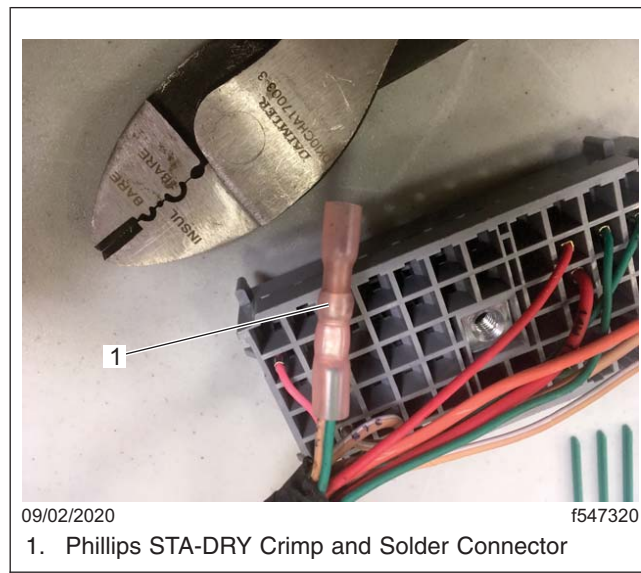

Fig. 7, D2 and D12 Wires in Connector
15.4 Twist the stripped ends of the D2 and D12 wires together. Install an appropriate size Phillips STA-DRY Crimp and Solder connector. See Fig. 7.